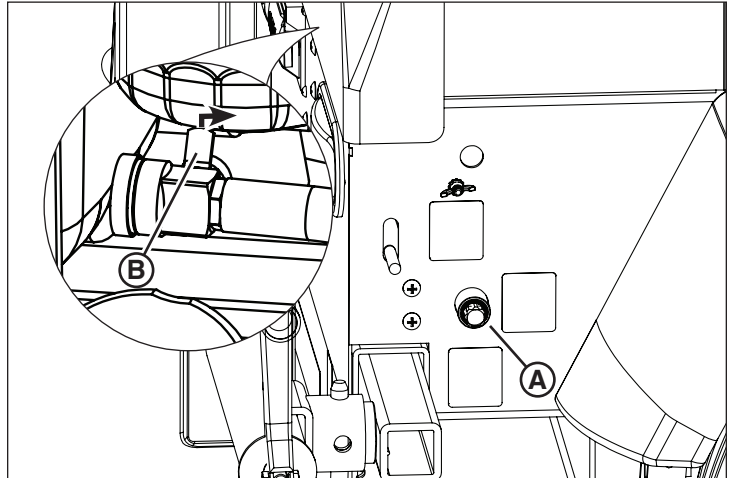

Figure 24
The unit is equipped with a remote engine oil drain (A, Figure 24), located on the right side of the light tower trailer toward the rear. To drain the engine oil:
3. Open the oil drain valve, located to the right of the engine oil pan (B, Figure 24, inset).